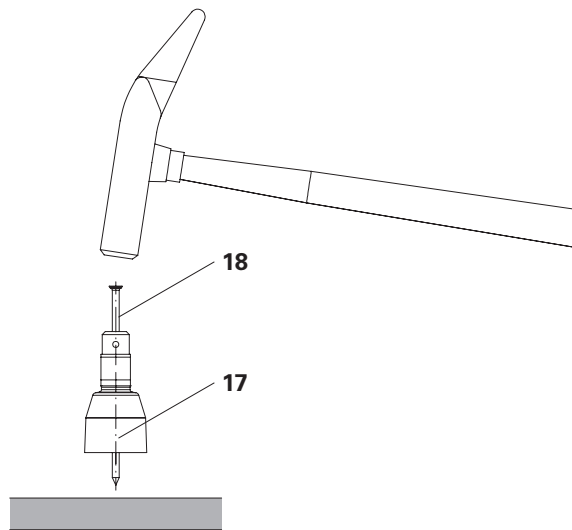

Fig. A5.02
3. Position Threaded Cone M24 (**17**) on the formlining and completely hammer in wire pin 4.6 x 130 (**18**). (Fig. A5.02)